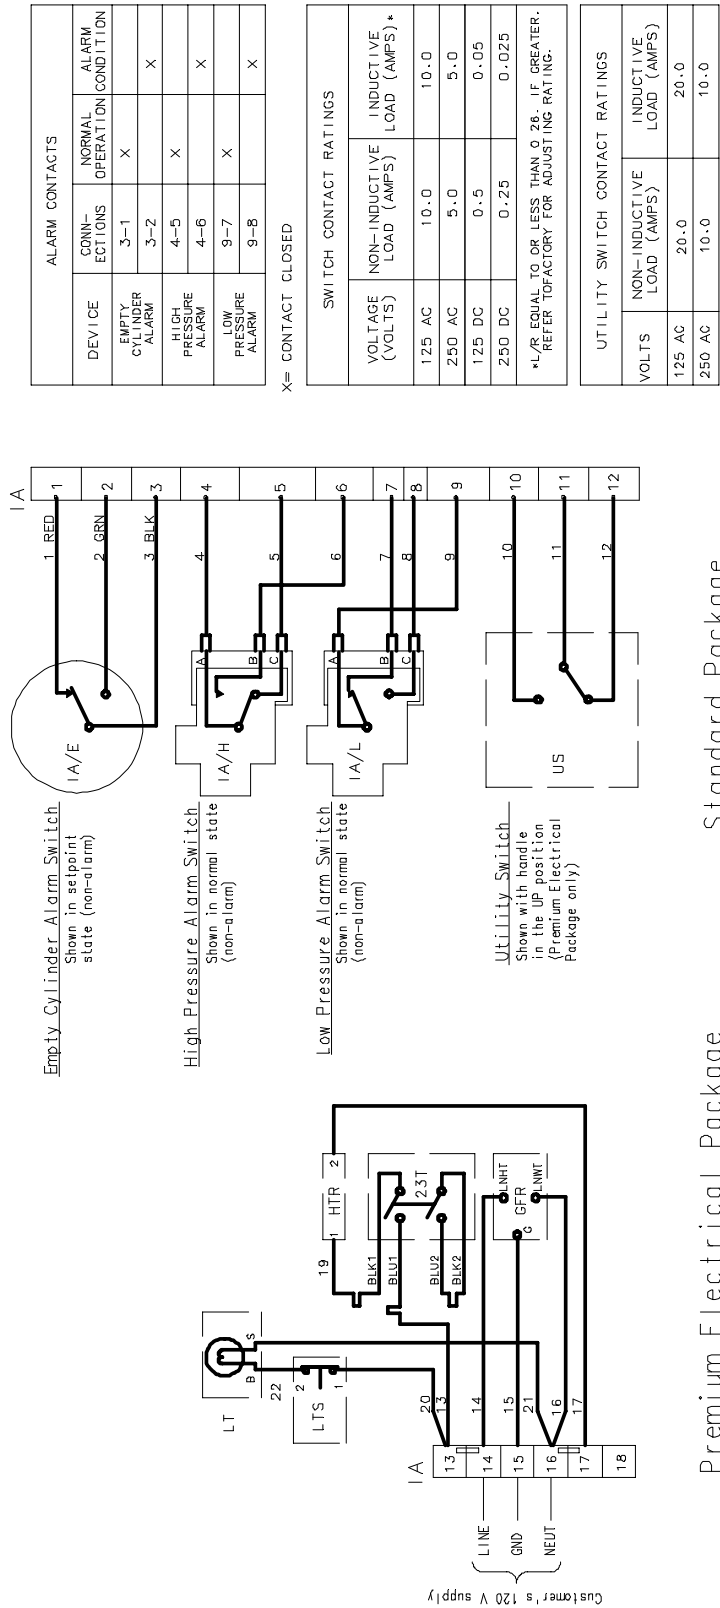

Figure 9: Schematic diagram for standard Inertaire® system.
2. Empty Cylinder Alarm Switch: A "Form C" (change over) contact within this pressure switch changes state when the pressure drops below the Empty Cylinder Alarm setpoint (200 psi [1,379 kPa], standard). The terminal points may be wired to a customer's alarm system (see Figure 9 for schematic and switch ratings).
11. Terminal Block with clear cover: This 12 point terminal block enables customer's connection to the three alarm switches (Empty Cylinder Alarm, High Pressure Alarm, and Low Pressure Alarm). See wiring diagram in Figure 9. Wiring is 14 AWG minimum type SIS VW-1 with insulated ring-tongue terminals. The block is rated 30 amps and has #10-32 screws for securing terminals.
- D. Utility Switch: This 3-position (ON-OFF-ON) toggle switch is wired to points 10, 11, and 12 of the 12 point terminal block (see wiring diagram Figure 9). These terminal points may be connected by the user as desired for special requirements such as the following:
Consult transformer controls wiring diagram for specific connections in the transformer's control scheme. A schematic diagram of the standard Inertiaire® system alarms and other electrical equipment is shown in Figure 9.
Do not use a low voltage bell ringer when checking the alarm circuits; this could exceed the interrupting ratings of the contacts and may damage the contacts. An indicating light device is best for checking the circuits. Figure 9 lists the interrupting ratings of the alarm contacts.